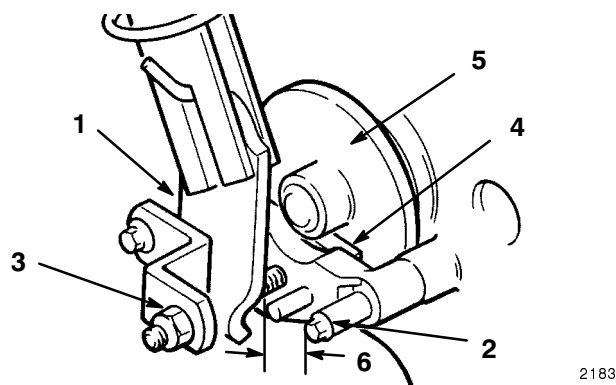

Figure 26
2. Measure distance between disc brake actuating arm and stop pin on axle bracket assembly (Fig. 26). Distance should be less than 1/4 inch (6 mm).
3. If distance is greater than 1/4 inch (6 mm), tighten locknut to decrease distance between actuating arm and stop pin (Fig. 26).
4. With the brake lever OFF, check clearance between brake pads and disc with a feeler gauge (Fig. 26). Proper clearance is approximately .010 inch (.25 mm).